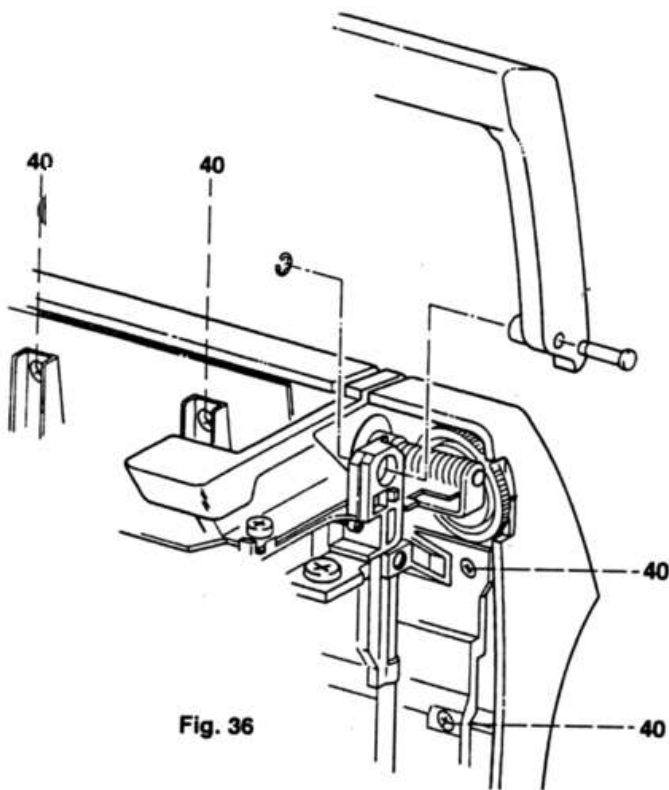

Fig. 36
- Fit the handle with the retaining pin and the circlip (fig. 36).